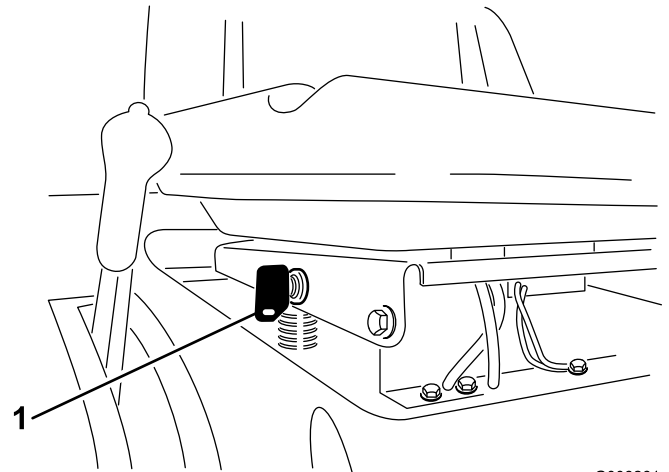

Figure 14
If you need to use the blades (PTO) while backing up, turn off the interlock feature using the KeyChoice switch located near the seat bracket (Figure 14).
2. Insert the KeyChoice key into the switch (Figure 14).